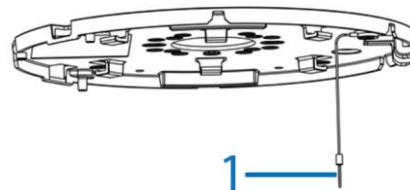
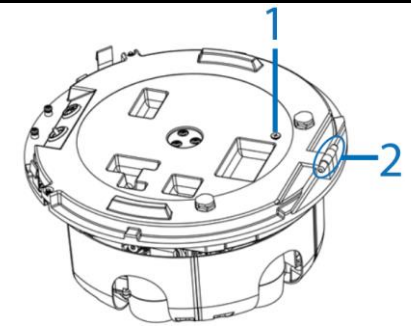
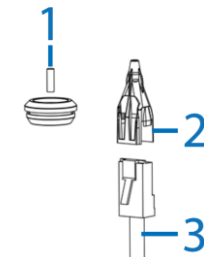
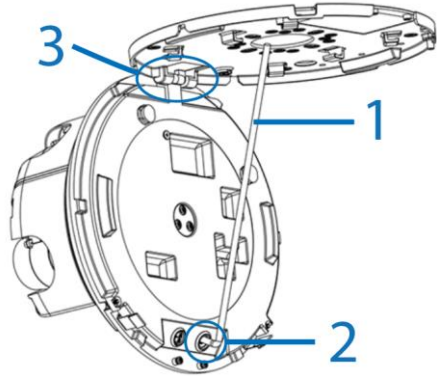

Figure 9
Figure 10
Figure 11
Figure 12
- Hold the camera lens module up to the mounting plate and insert the 'loop' on the safety lanyard (1) (Figure 9) that is attached to the mounting plate to the screw (1) (Figure 10) on the camera lens module.
- Insert the 'hinge pins' (2) (Figure 10) on the camera module lens into the 'hinge knuckle' on the mounting plate. **'3' in Figure 12 identifies where the camera lens module and mounting plate attach together.**
- Insert the RJ-45 cable (3) (Figure 11) into the insert tool (2) (Figure 11) remove the rubber grommet (2) (Figure 12) from the camera lens module.
- Pierce the rubber grommet (1) (Figure 11) by passing the insert tool and cable through the center of the rubber grommet.
- Pass the insert tool and cable (1) (Figure 12) through the rubber grommet hole (2) (Figure 12) on the camera lens module.